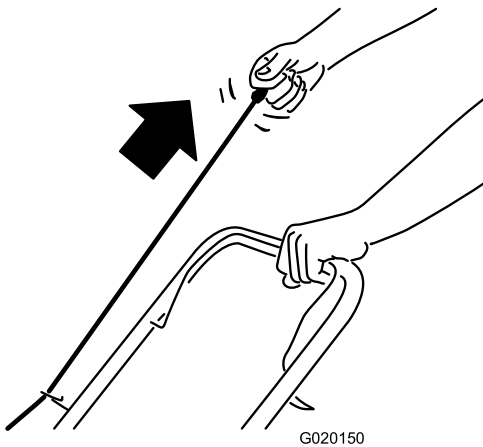

Figure 11
2. Pull recoil-start handle (Figure 11).